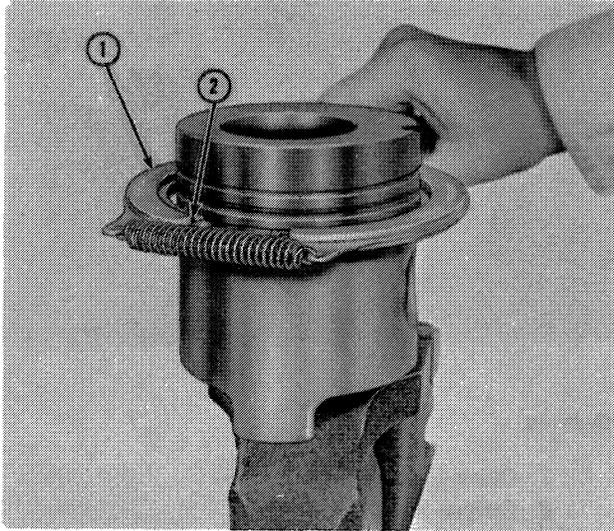

Figure 38
6. Remove the piston rings from the pistons with a piston ring expander or other suitable means. See Figure 38.